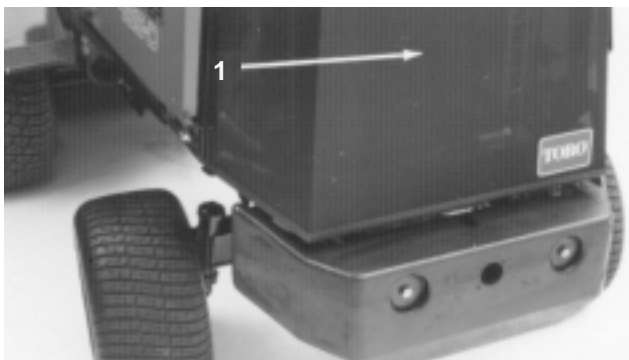

Figure 43
2. Unscrew knobs and remove rear screen (Fig. 43). Clean screen thoroughly.